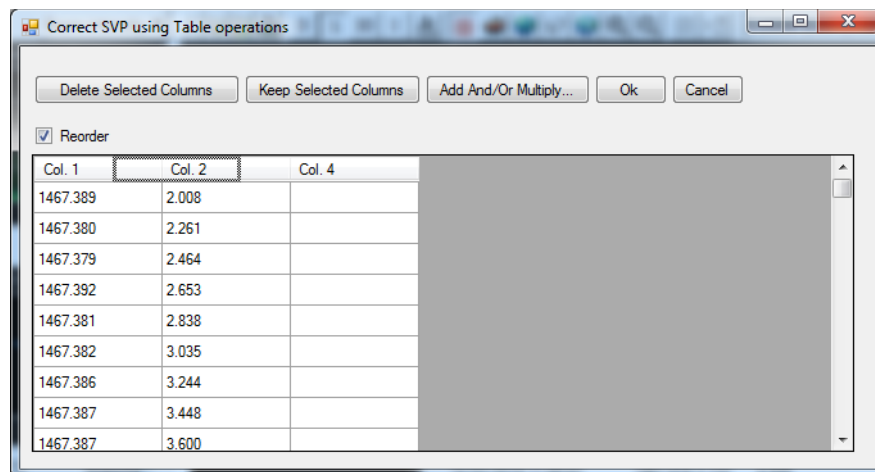

Figure 20: Move columns
- Move the columns by position the mouse pointer on the column header row and drag the column to right position. The “Record” checkbox has to be checked (Figure 20)